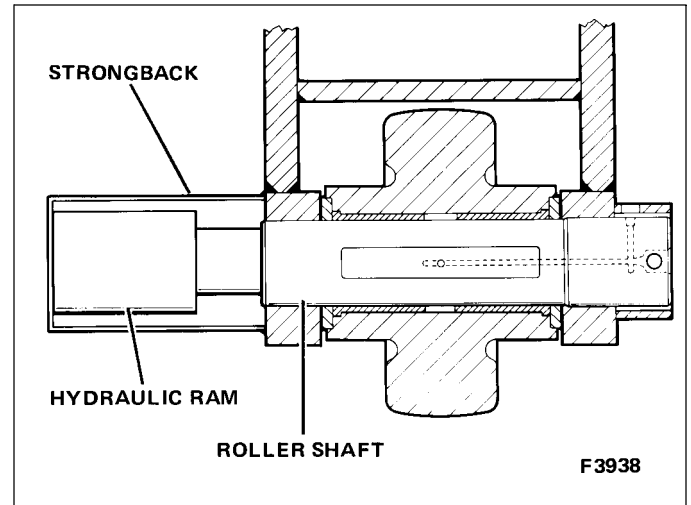

Figure 7-32. Roller Pin Removal
6. Fabricate a strongback similar to that shown in Figure 7-32 and weld it to the crawler frame. See section 9 for welding procedures.